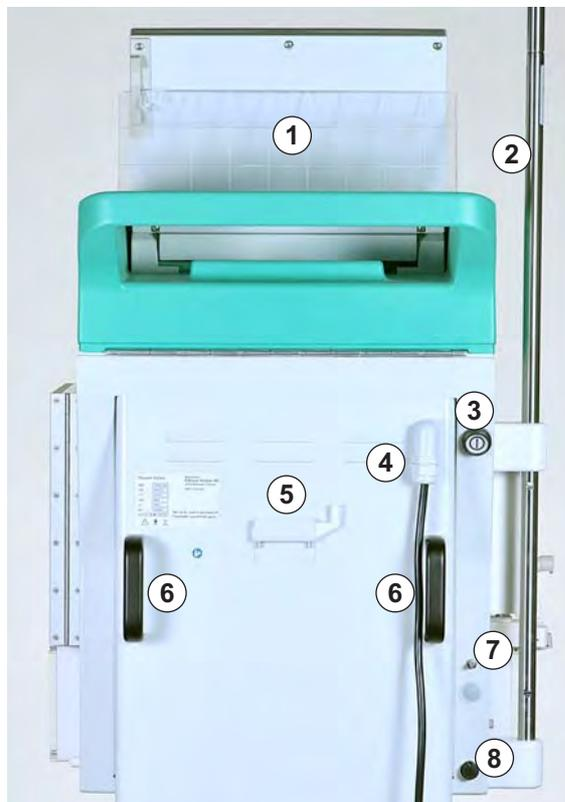

Fig. 3-7 Rear view
The On/Off switch is located at the top right of the machine's rear side (see Fig. 3-7 Rear view (35)). It acts as a power switch that connects and disconnects the machine from the mains supply.